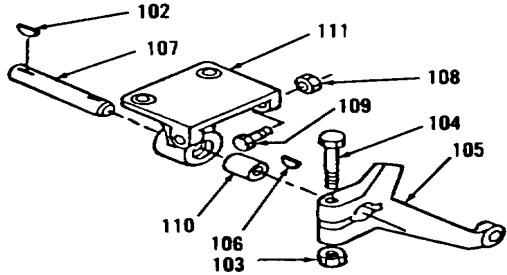
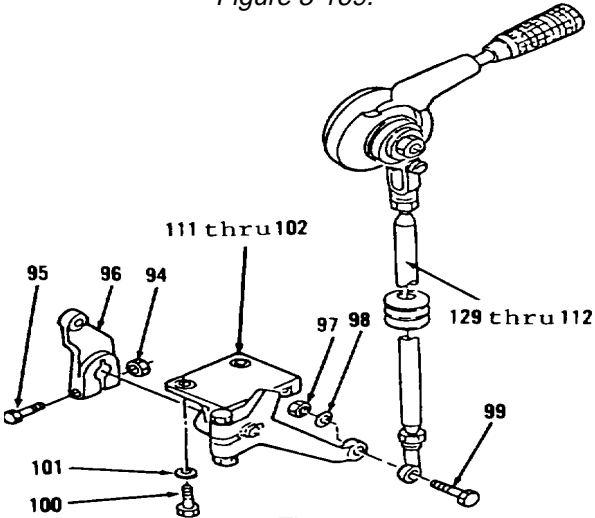
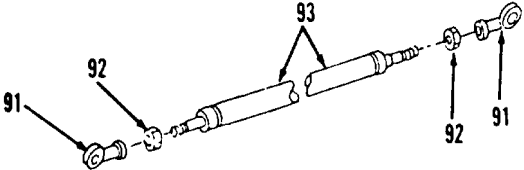

Figure 3-169.
Figure 3-168.
Figure 3-167.
- 10. Using suitable driver and hammer, install bushing (110), if removed and bracket (111, Figure 3-169) under right side of operator's compartment.
- 11. Install two bolts (109) and nuts (108) in bracket (111).
- 12. Install shaft (107).
- 13. Install key (106), lever (105), bolt (104) and nut (103).
- 14. Install key (102).
- 15. Install items 111 thru 102 as an assembly, two washers (101) and bolts (100, Figure 3-168).
- 16. Install bolt (99), washer (98) and nut (97).
- 17. Install lever (96).
- 18. Install bolt (95) and nut (94).
- 19. Install two nuts (92) and rod ends (91) loosely on link (93, Figure 3-167).